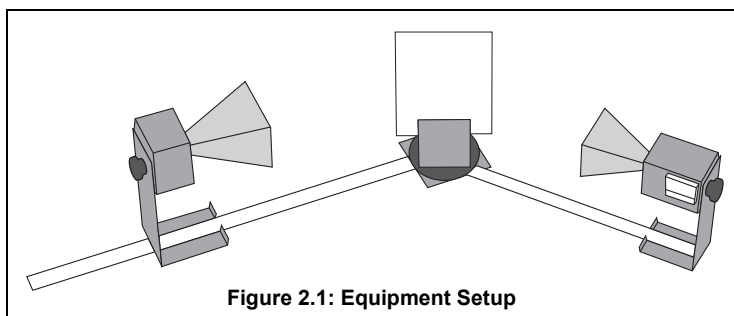

Figure 2.1: Equipment Setup
1. Arrange the equipment as shown in Figure 2.1 with the Transmitter attached to the fixed arm of the Goniometer. Be sure to adjust the Transmitter and Receiver to the same polarity; the horns should have the same orientation as shown.